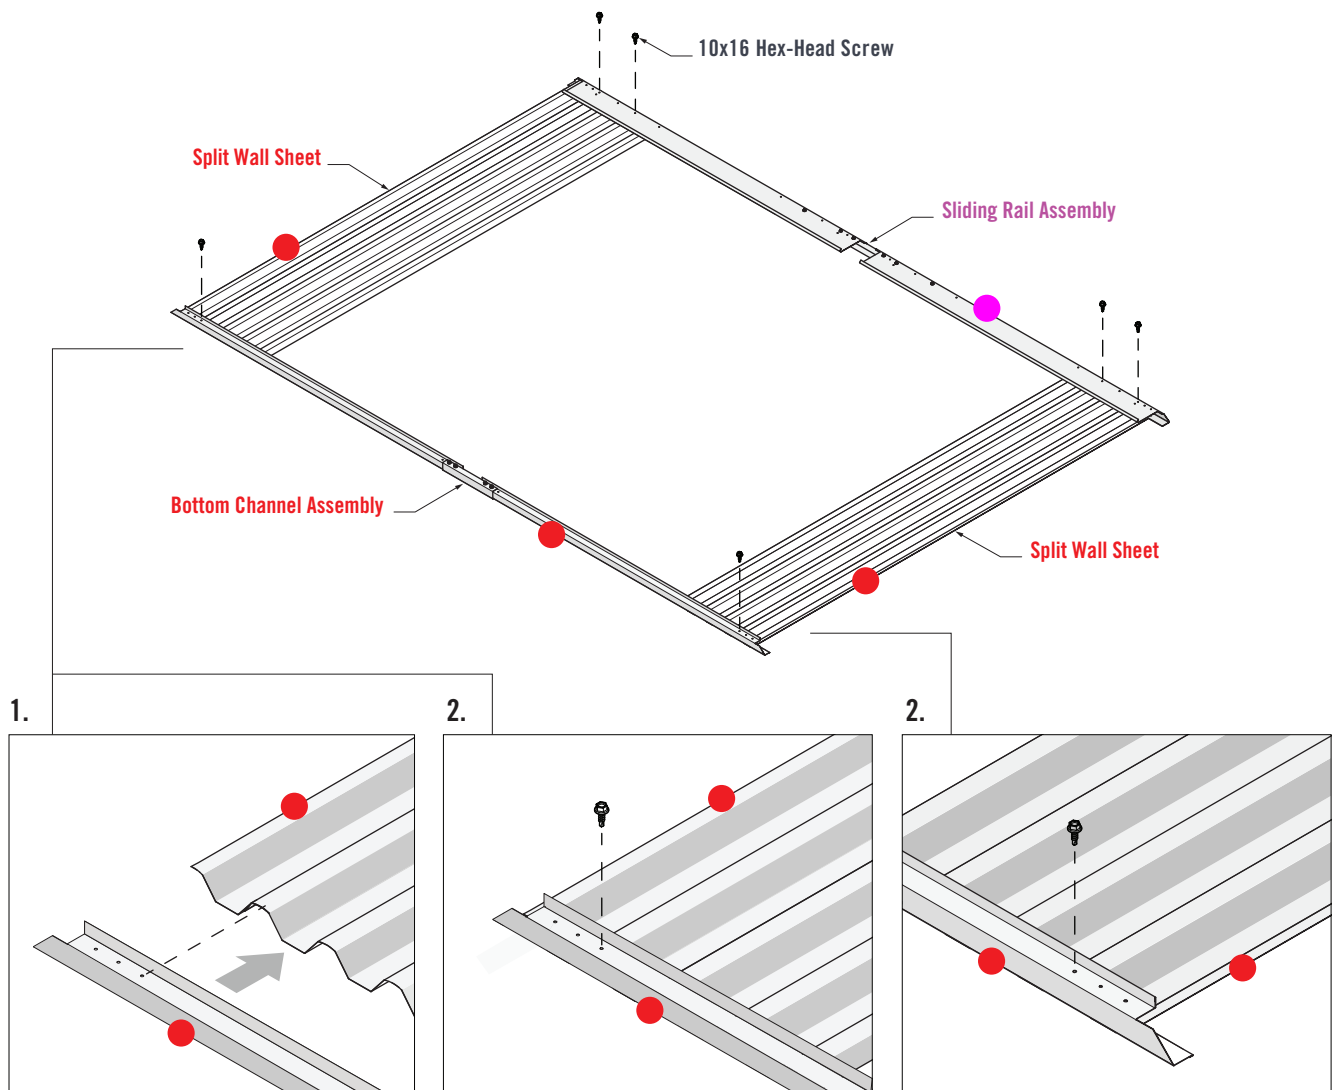

FIGURE 5.2
1. Fit the **Bottom Channel Assembly** and **Sliding Rail Assembly** over the Wall Sheets. Align the third pilot hole of the **Bottom Channel** and **Sliding Rail Assembly** with the **Split Wall Sheet** crest (Figure 5.2).
2. Fasten one 10x16 self-drilling screw through the third pilot hole of the **Bottom Channel** and **Sliding Rail Assembly** and into the corresponding Wall Sheet crests at each corner. Fasten a 10x16 Self-drilling Screw through the fifth pilot hole of the **Sliding Rail Assembly** and into the corresponding Wall Sheet crest at both ends (Figure 5.2).